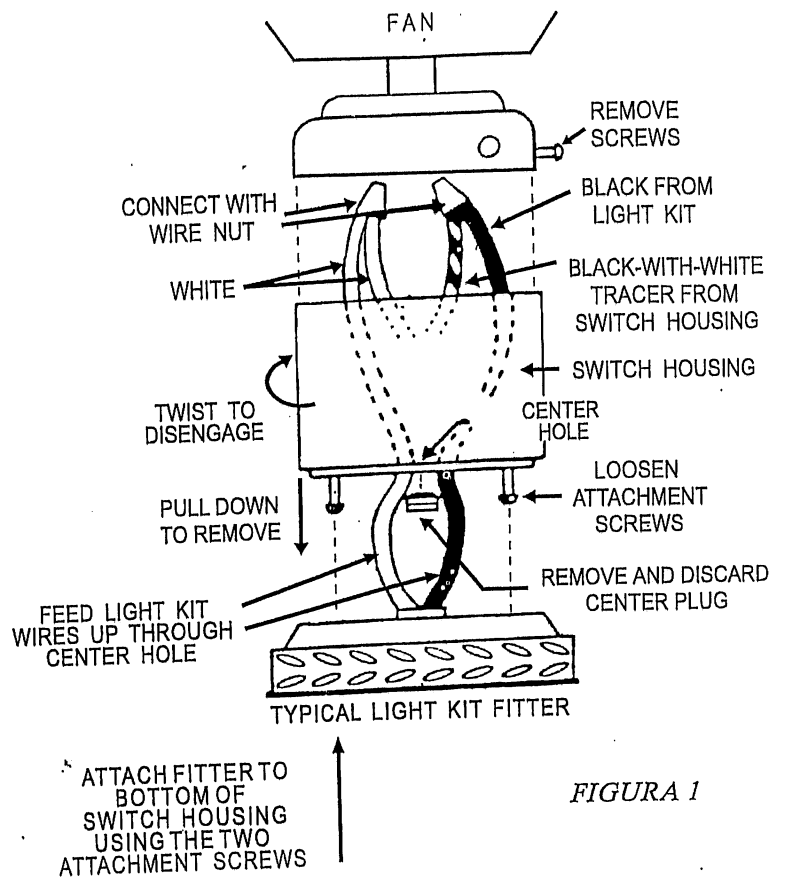

FIGURE 1
1. Remove the switch housing from the fan by loosening the three screws at the top of the housing and twisting the housing to disengage if necessary. Pull down on the switch housing to remove it from the fan. See Figure 1.